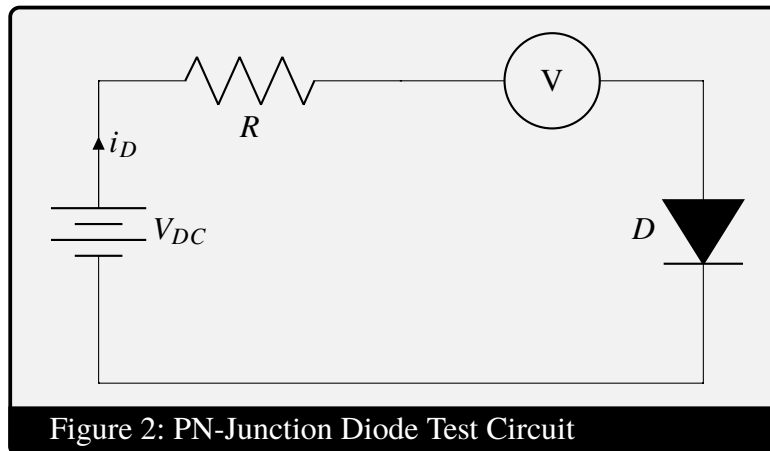

Figure 2: PN-Junction Diode Test Circuit
2. Build the circuit shown in Figure 2 using the E3631A Power Supply's +6 V source and the 34410A Digital Multimeter as an Ammeter with the diode connected in series. The maximum continuous current that the 1N4148 diode can conduct is 200 mA (see datasheet). An alternative way to protect the diode from excessive currents is to use a series resistor. Because the diode current depends exponentially on its bias voltage, if the power-supply voltage were inadvertently set to its highest voltage level (6 V for the 6 V supply used in this experiment), an excessive current could flow through the diode which would damage it permanently. The resistor prevents this condition from taking place.
1. Define all parameters and variables in Equation (2).
2. Plot the $I_D(V_{PN})$ characteristics obtained using LabVIEW on a log-linear plot. Note that the term ‘log-linear’ is used to describe a semi-log plot with a logarithmic scale on the y-axis and a linear scale on the x-axis. The y-axis label should read ‘1N4148 Diode Current, I_D (A)’ and the x-axis label should read ‘Diode Voltage, V_{PN} (V).’ Make sure to have enough data points to generate a smooth curve. Use the measured value of V_{PN} (from your V_{PN} vs V plot) across the diode in this plot, i.e., do not assume that the voltages supplied by the power supply are those across the diode.
5. Comment on the values of I_S and γ that yield the best fit to the data. How do your experimental and varied values compare with those given in the diode manufacturer data sheets? (For R_S use Figure 2, curve 2, on the Vishay datasheet. I_S can be found under reverse current, and γ should be about 2.3.)